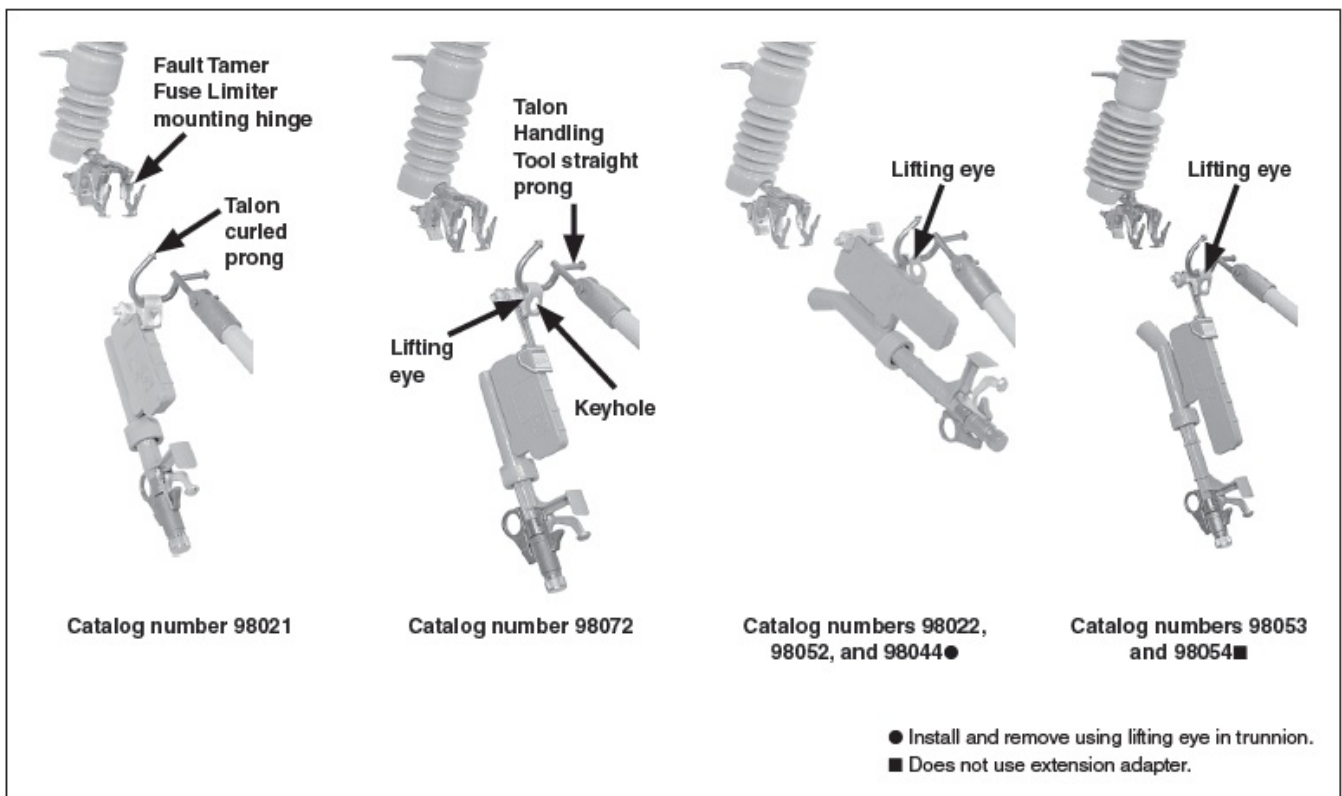

Figure 7. Installing a Fault Tamer Fuse Limiter into a mounting.
- **STEP 1.** When a Fault Tamer Fuse Limiter operates, it swings to the Open position. Remove it from the mounting using a universal pole and a suitable fuse-handling fitting, such as a Talon™ Handling Tool or a distribution prong. See Figure 7 on page 13
- **STEP 1.** Insert the curled prong of a Talon Handling Tool or a distribution prong into the opening of the lifting eye. See Figure 7. Or, as an alternate, insert the straight prong on the Talon tool or a distribution prong into the
- **STEP 2.** Guide the Fault Tamer Fuse Limiter into the hinge of the mounting, as shown in Figure 7. Then, disengage the distribution prong. If a Talon tool is used, rotate the universal pole counterclockwise 180° to disengage.